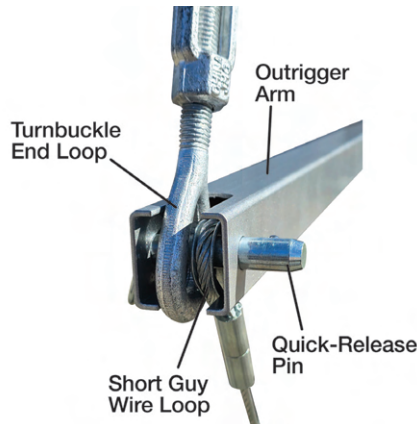

Figure 7-16: Attaching Turnbuckle and Short Guy Wire to Outrigger Arm
4. Using the other end of the short guy wire, align the guy wire loop and turnbuckle end loop inside the outrigger connection slot at the end of the outrigger arm. Attach both the short guy wire and turnbuckle to the outrigger arm using the quick-release pin (see Figure 7-16). Do this to both sides of the lift.